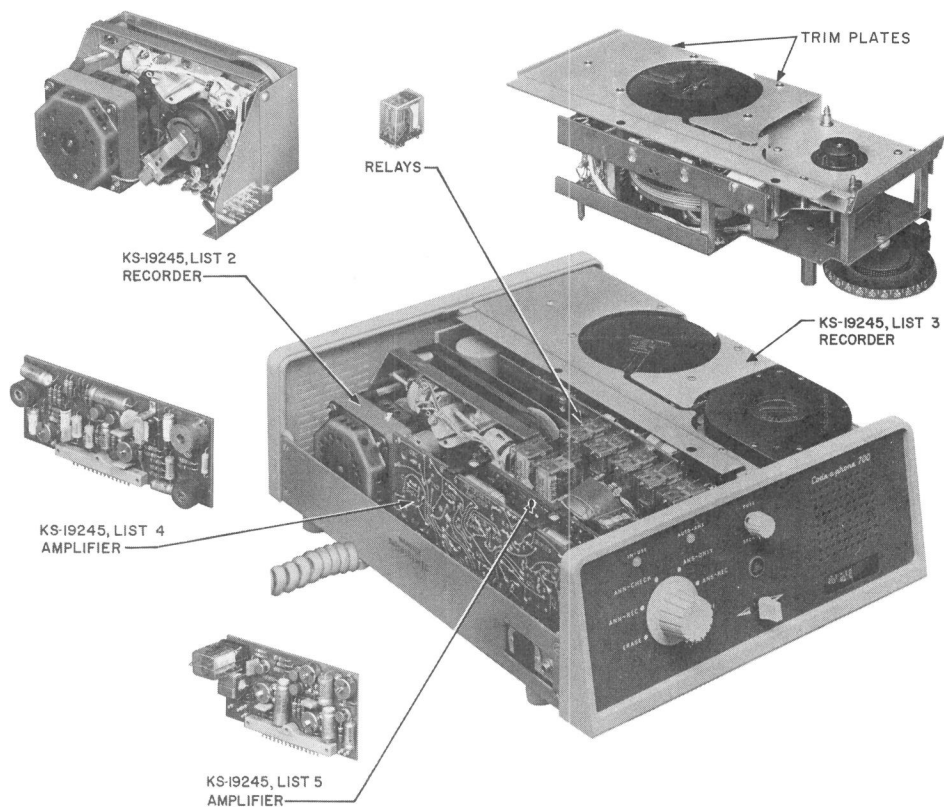

Fig. 3—KS-19245, List 1 Telephone Answering Set, Top Cover Removed
*Do not lift or pry on the trim plates (Fig. 3).*
- (1) Remove top cover (2.01).
- (2) Remove List 2 recorder (Fig. 3):
**Do not lift or pry on the trim plates (Fig. 3).**
- (1) Remove top cover of answering set (2.01).
- (2) Slide wire spring retainer from relay.
- (3) Remove relay from its plug-in socket (Fig. 3).